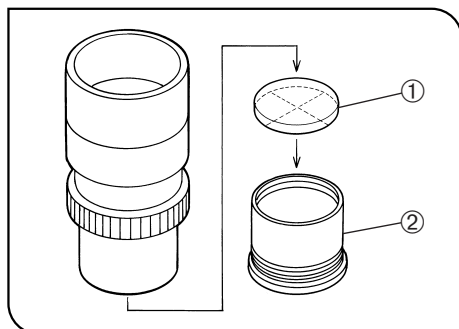

Fig. 15
4 Using Eyepiece Micrometer Disks (Fig. 15)
Following Fig. 15, unscrew the micrometer mounting frame ② from the eyepiece and place a micrometer disk ① into the mounting frame. Reattach the micrometer mounting frame in the original position.